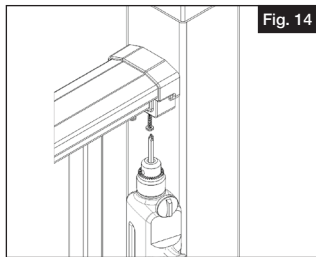

Fig. 14
- While tightly squeezing the bracket cover closed, pre-drill using a $\frac{5}{32}$ " drill bit through the two holes underneath. Then, drive two #10 x 1" square drive screws through the cover, metal bracket and into the top rail (Fig 14).